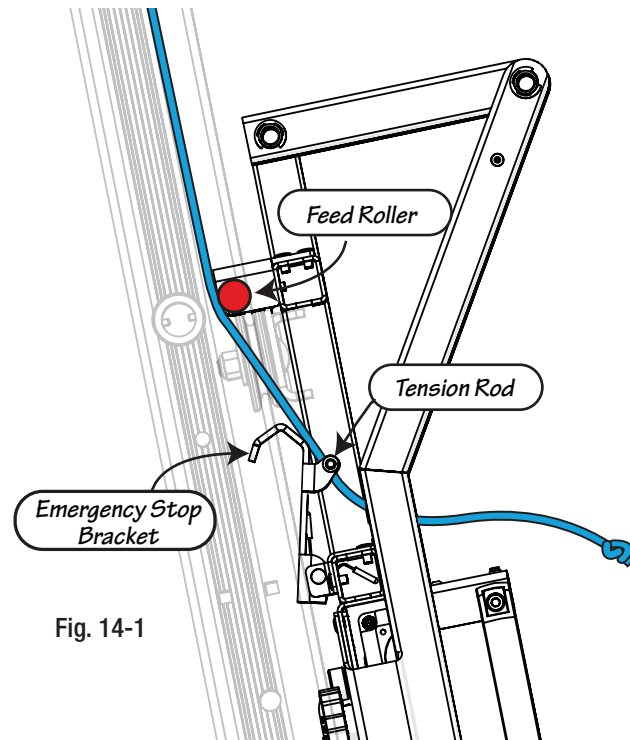
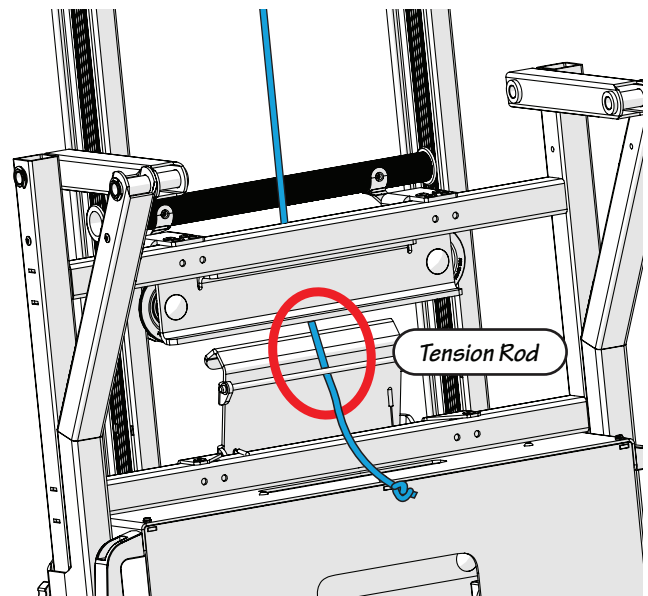

Fig. 14-1
Fig. 14-3
- Feed the knotted end of the cable through the back of the platform frame between the feed roller and the roller guide plate as shown in Fig. 14-1 & 14-2.
- Pass the knotted end of the cable through the emergency stop bracket passing between the back plate and the tension rod as shown in Fig. 14-1 & Fig. 14-3.